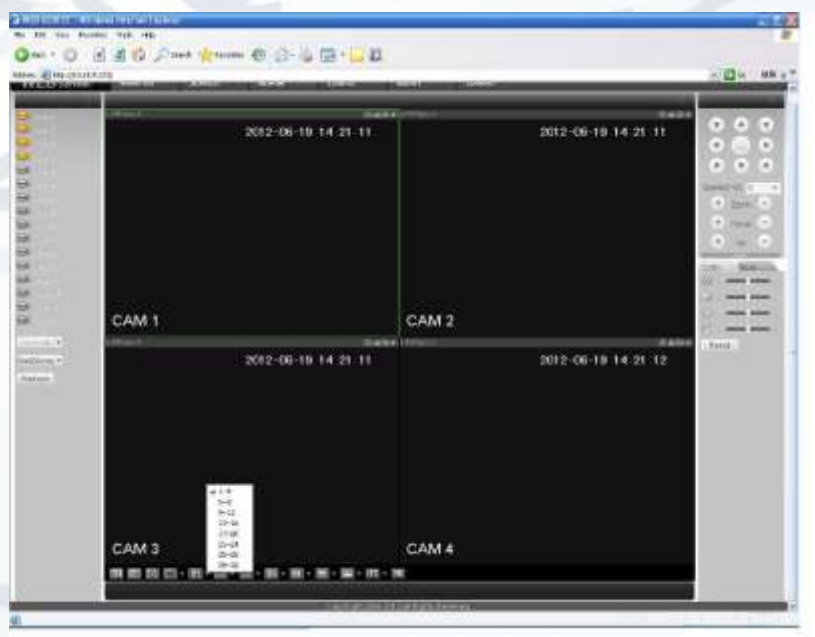

Figure 6-15
2. You can select different channel and different monitor mode at the bottom of the interface (see Figure 6-15).